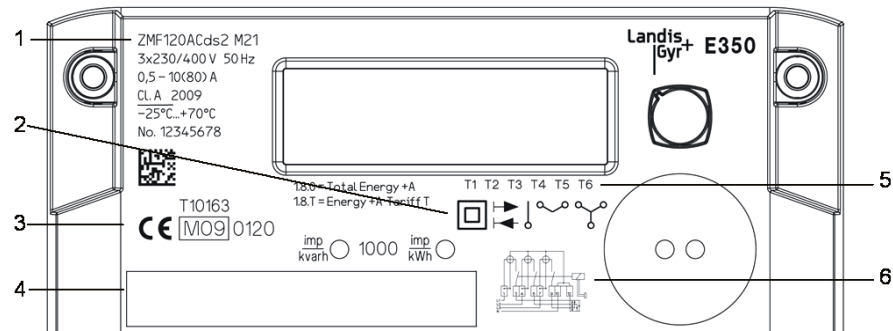

Fig. 3.2 Basic layout of face plate
- 1 Front cover (face plate with laser marking, for details see Fig. 3.2)